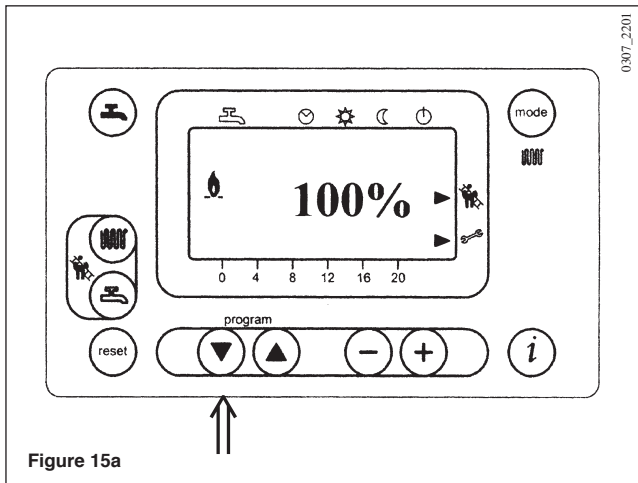

Figure 15a
- Press and hold the  and  keys on the control panel simultaneously for 7 seconds until the ► symbols appear on the display in the position shown in figures 15a and 15b  . You are now in 'calibration mode'.
- Press the  key to set the maximum heat output, with the display showing 100% (figure 15a).
- Switch on the boiler, activating the "setting function" from the control panel by pressing and holding the  and  keys simultaneously until the ► symbols are displayed, positioned as illustrated in figures 15a and 15b  . You are now in 'calibration mode'.